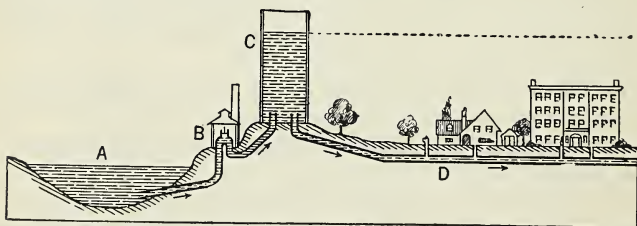

Fig. 76. Pumping water-supply system. A, reservoir; B, pumping station; C, standpipe; D, water main.
**Pumping systems of water supply.** Cities and towns that draw their water from a source below their own level use a pumping system. The water may be pumped directly into the water mains or it may be pumped into standpipes or reservoirs located at high levels from which it flows down again to the houses (Fig. 76). Often there is a combination of direct pumping and standpipes. During hours of low demand the pumps fill the standpipes. During hours of average use the pumps supply the demand directly. In emergencies, as during a great fire, the standpipes help to supply the demand.